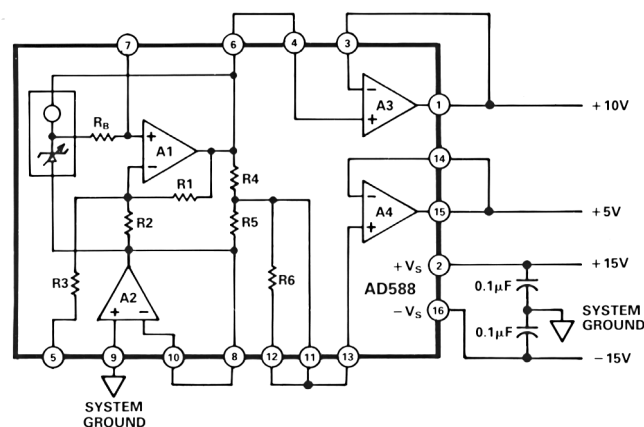
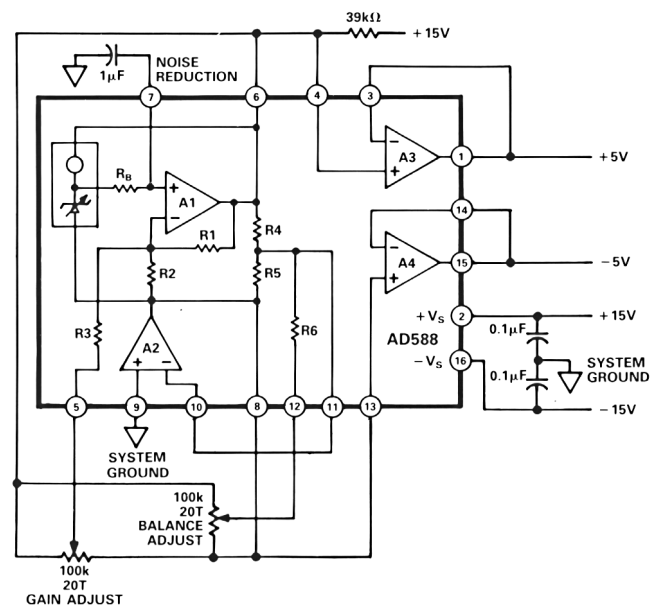
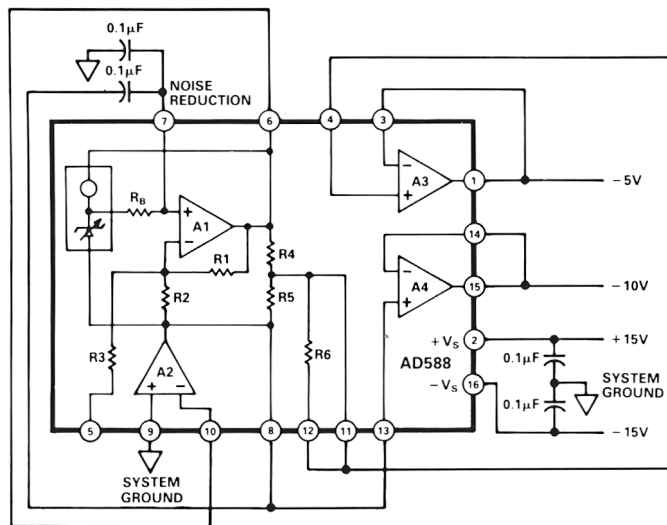

Figure 2a. +10 V Output
Figure 2b. +5 V and -5 V Outputs
Figure 2c. -10 V Output
+10 V Figure 2a
-10 V Figure 2c
+5 V, -5 V, ±5 V Figure 2b
The AD588 can be configured to provide +10 V and -10 V reference outputs as shown in Figures 2a and 2c respectively. It can also be used to provide +5 V, -5 V or a ± 5 V tracking reference as shown in Figure 2b. Table I details the appropriate pin connections for each output range. In each case, Pin 9 is connected to system ground and power is applied to Pins 2 and 16.
As indicated in Table I, a +5 V buffered output can be provided using amplifier A4 in the +10 V configuration (Figure 2a). A -5 V buffered output can be provided using amplifier A3 in the -10 V configuration (Figure 2c). Specifications are not guaranteed for the +5 V or -5 V outputs in these configurations. Performance will be similar to that specified for the +10 V or -10 V outputs.
Figure 2b shows GAIN and BALANCE trims in a +5 V and -5 V tracking configuration. A 100 k Ω 20-turn potentiometer is used for each trim. The potentiometer for GAIN trim is connected between Pins 6 (V_{HIGH}) and 8 (V_{LOW}) with the wiper connected to Pin 5 (GAIN ADJ). The potentiometer is adjusted to produce exactly 10 V between Pins 1 and 15, the amplifier outputs. The BALANCE potentiometer, also connected between Pins 6 and 8 with the wiper to Pin 12 (BAL ADJ), is then adjusted to center the span from +5 V to -5 V.
If further noise reduction is desired, an optional capacitor may be added between the NOISE REDUCTION pin and ground as shown in Figure 2b. This will form a low-pass filter with the 4 k Ω R_B on the output of the Zener cell. A 1 μF capacitor will have a 3 dB point at 40 Hz and will reduce the high frequency (to 1 MHz) noise to about 200 μV p-p. Figure 4 shows the 1 MHz noise of a typical AD588 both with and without a 1 μF capacitor.
Note that a second capacitor is needed in order to implement the NOISE REDUCTION feature when using the AD588 in the -10 V mode (Figure 2c.). The NOISE REDUCTION capacitor is limited to 0.1 μF maximum in this mode.